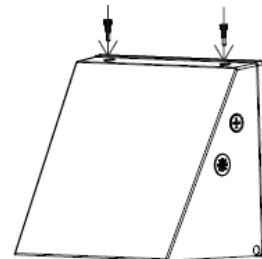

Fig. 2.7
9. Tighten both screws on the top of the luminaire to complete the installation (Fig. 2.7).